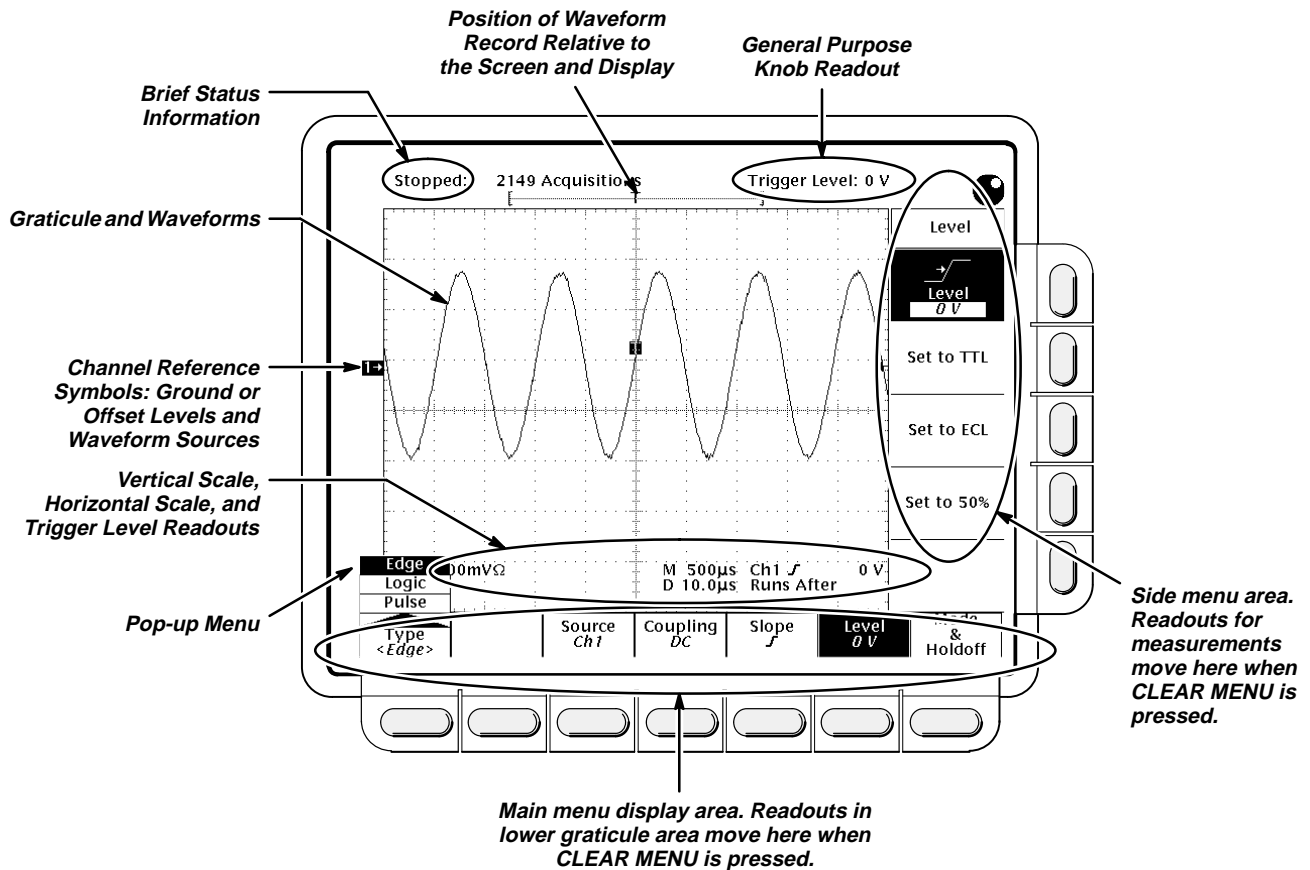

Figure 1-1: Map of Display Functions
- Refer to Figure 1-1 (TDS 640 model shown): “Main menu” refers to the menu that labels the seven menu buttons under the display; “side menu” refers to the menu that labels the five buttons to the right of the display. “Pop-up menu” refers to a menu that pops up when a main-menu button is pressed.
- The vertical scale readout for the channel under test shows a setting of 200 mV, and a square wave probe-compensation signal about 2.5 divisions in amplitude is on-screen. (See Figure 1-1 on page 1-3 to locate the readout.)